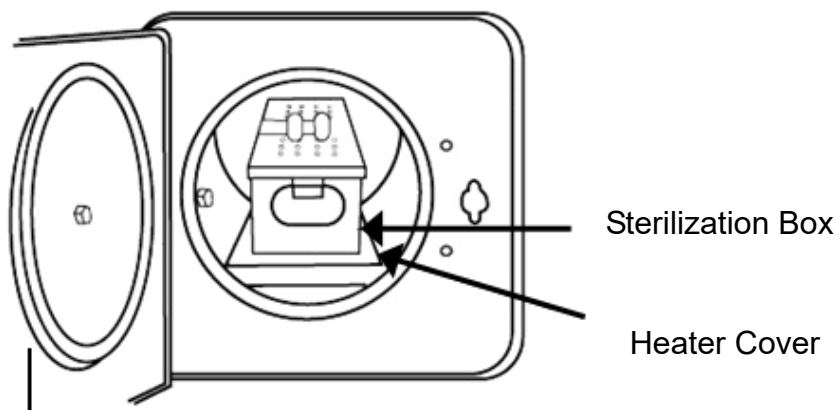

Figure 5 – Sterilization Box
- C. Install the Sterilization Box as Figure 5. (standard accessory)